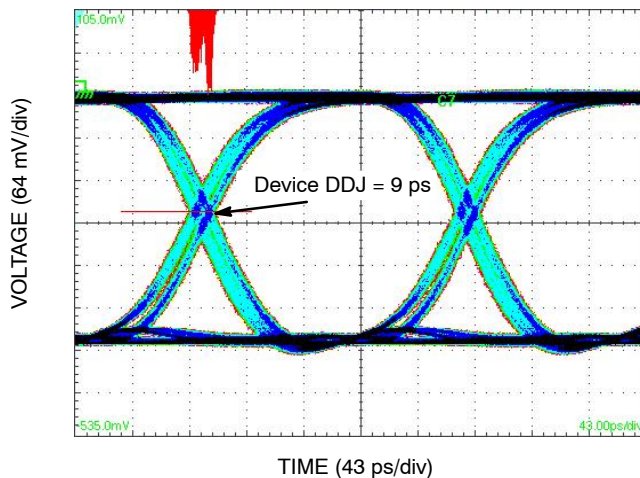

Figure 11. Typical Output Waveform at 5 Gb/s with PRBS $2^{23}-1$ ($V_{INPP} = 400$ mV; Input Signal DDJ = 13 ps)
3. $V_{INPP(MAX)}$ cannot exceed $V_{CC} - V_{EE}$. Input voltage swing is a single-ended measurement operating in differential mode. See Figure 11.